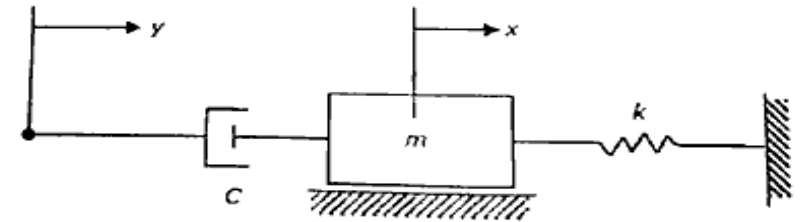

Figure 1 (चित्र 1)
2. a) i) Draw the FBD of the system and derived the differential equation governing by vibrating system is (Figure 1)